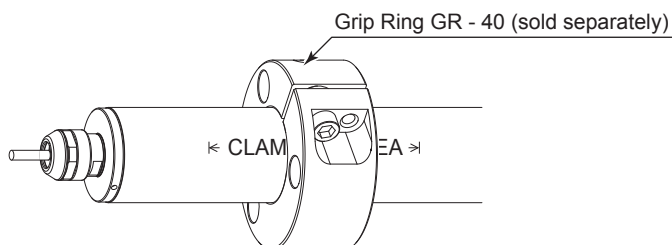

Fig. 23
* When installing the Brushless Motor Spindle, it is recommended to use a " Grip Ring GR - 40 (sold separately (Fig. 23)) ". If the Grip Ring GR - 40 cannot be used due to the restriction of dimension and space, install as shown in (2) below.